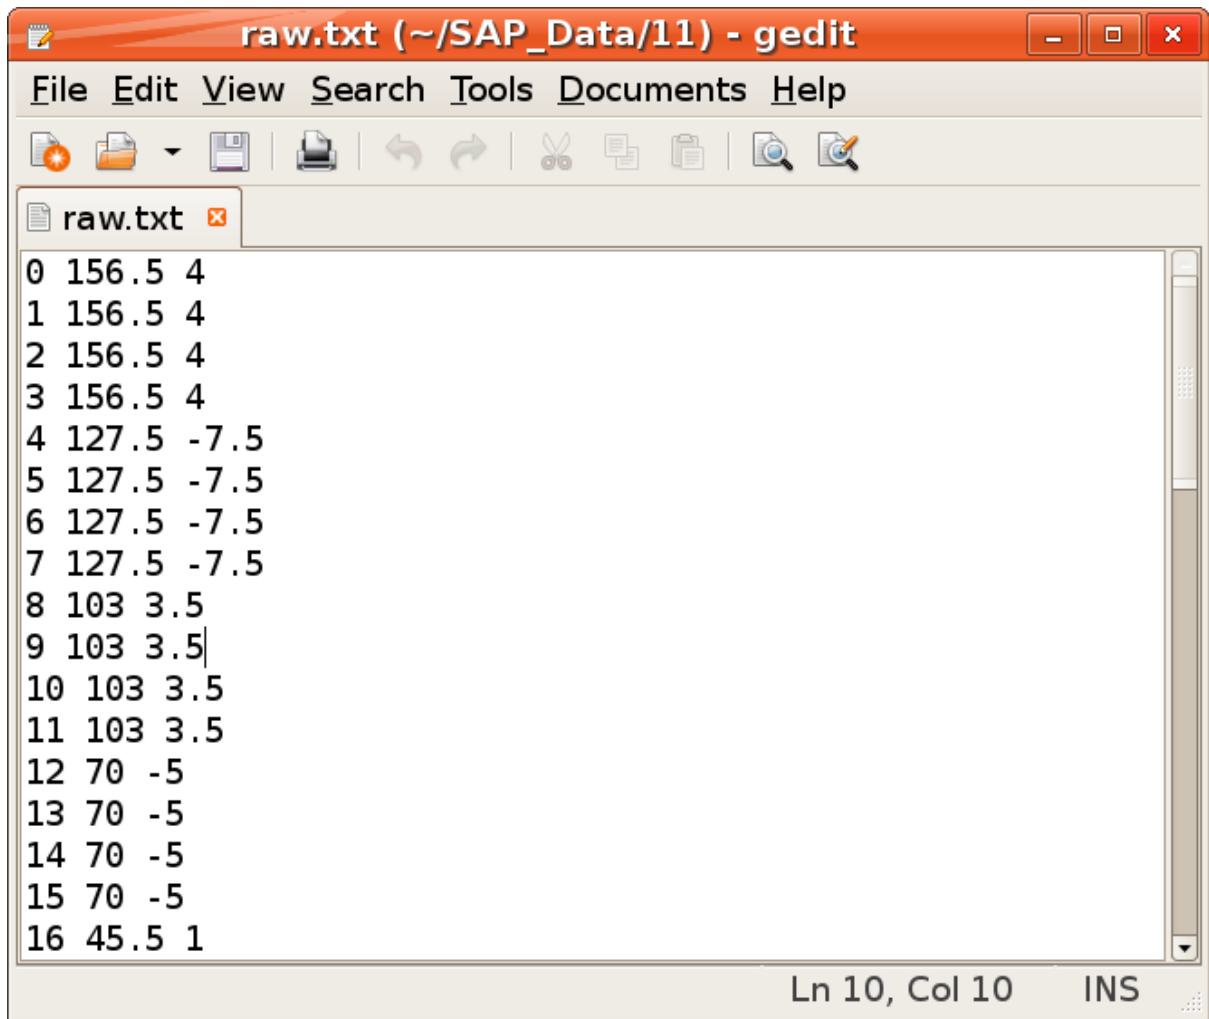

Figure 1: How to enter the calibration data. Note that the compass and clino readings come in groups of four
8. You should now have 48 separate readings. You need to enter these into a text file (Windows users use Notepad, Linux users use your favourite text editor). Each line should represent one of the legs. Enter the leg number, compass reading, and clino reading, in that order, separated by tabs. See Figure 1 on page 7 for an example.